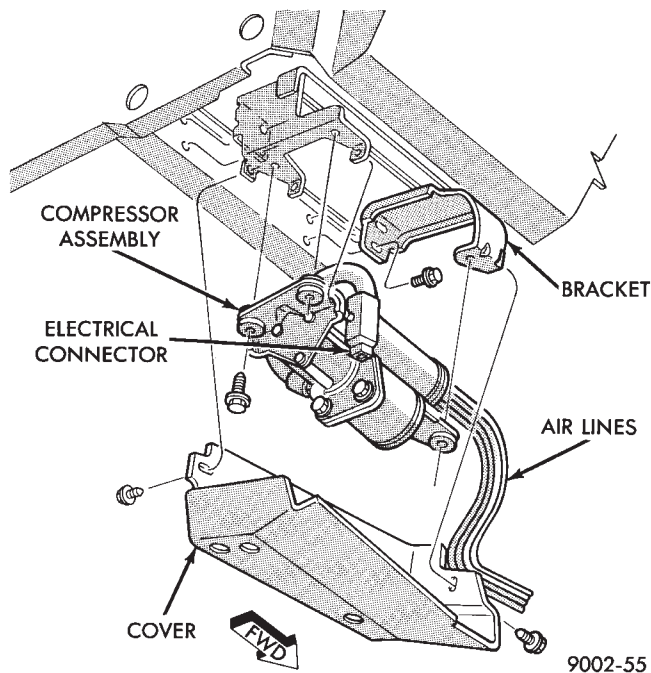

Fig. 12 Compressor Assembly
- (1) Disconnect battery negative cable.
- (2) Raise vehicle, see Hoisting, Group 0.
- (3) Remove cover from compressor assembly. Remove air hose (see AIR LINES) and electrical connectors (Fig. 12)
- (4) Remove compressor assembly mounting screws and lower assembly from vehicle.
- (5) Remove mounting bracket screws and slide mounting bracket away from compressor.